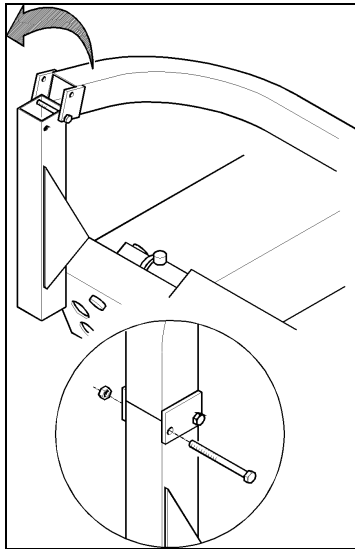

Fig.11
- A.** Move the control arm to a vertical position. Install the lock bolt and tighten the nut properly. Make sure that the electric cable and hydraulic hoses are not caught nor damaged. (Fig.11).
- B.** Install the accessories peg and lock with screw(Fig.11).